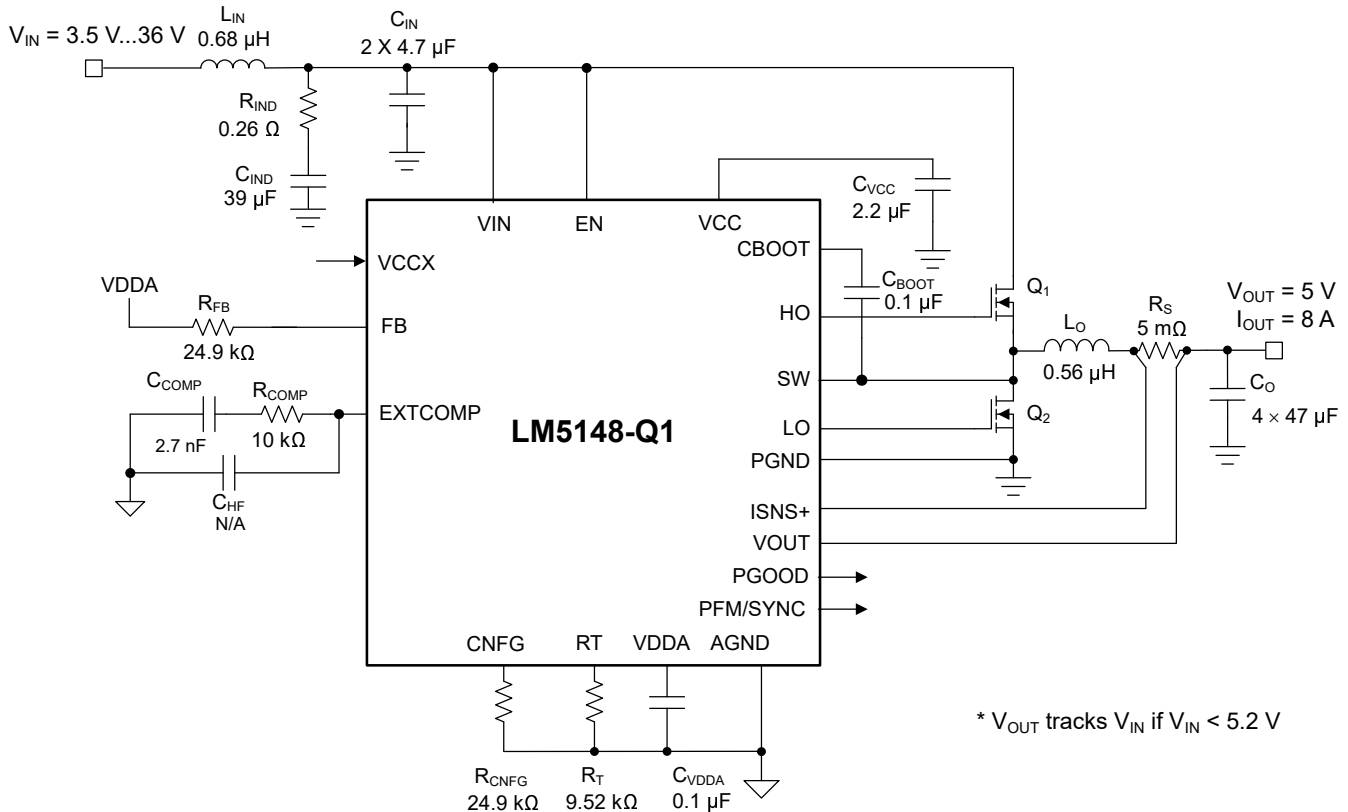

**Figure 8-3. Error Amplifier and Compensation Network**
Figure 8-3 shows a type-II compensator using a transconductance error amplifier (EA). The dominant pole of the EA open-loop gain is set by the EA output resistance,  $R_{O-EA}$ , and effective bandwidth-limiting capacitance,  $C_{BW}$ , as shown by Equation 26.